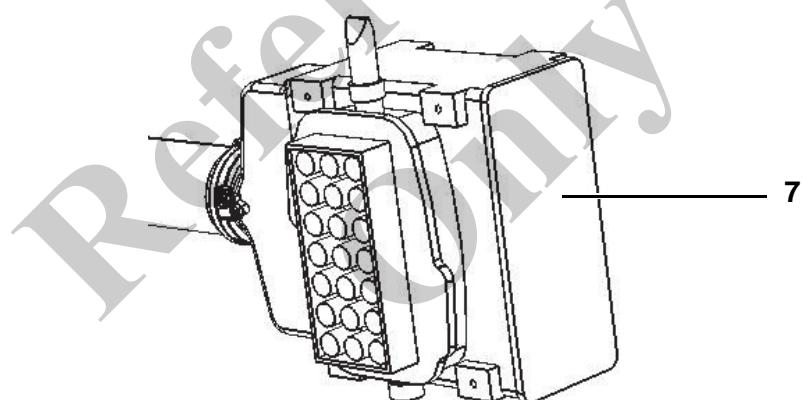

Fig. 11 Air filter pre-separator
| 3 | Open the locking clamps of the pre-separator cover (7) in Fig. 11. |
| 5 | Attach the pre-separator cover (7) in Fig. 11 using the locking clamps. |